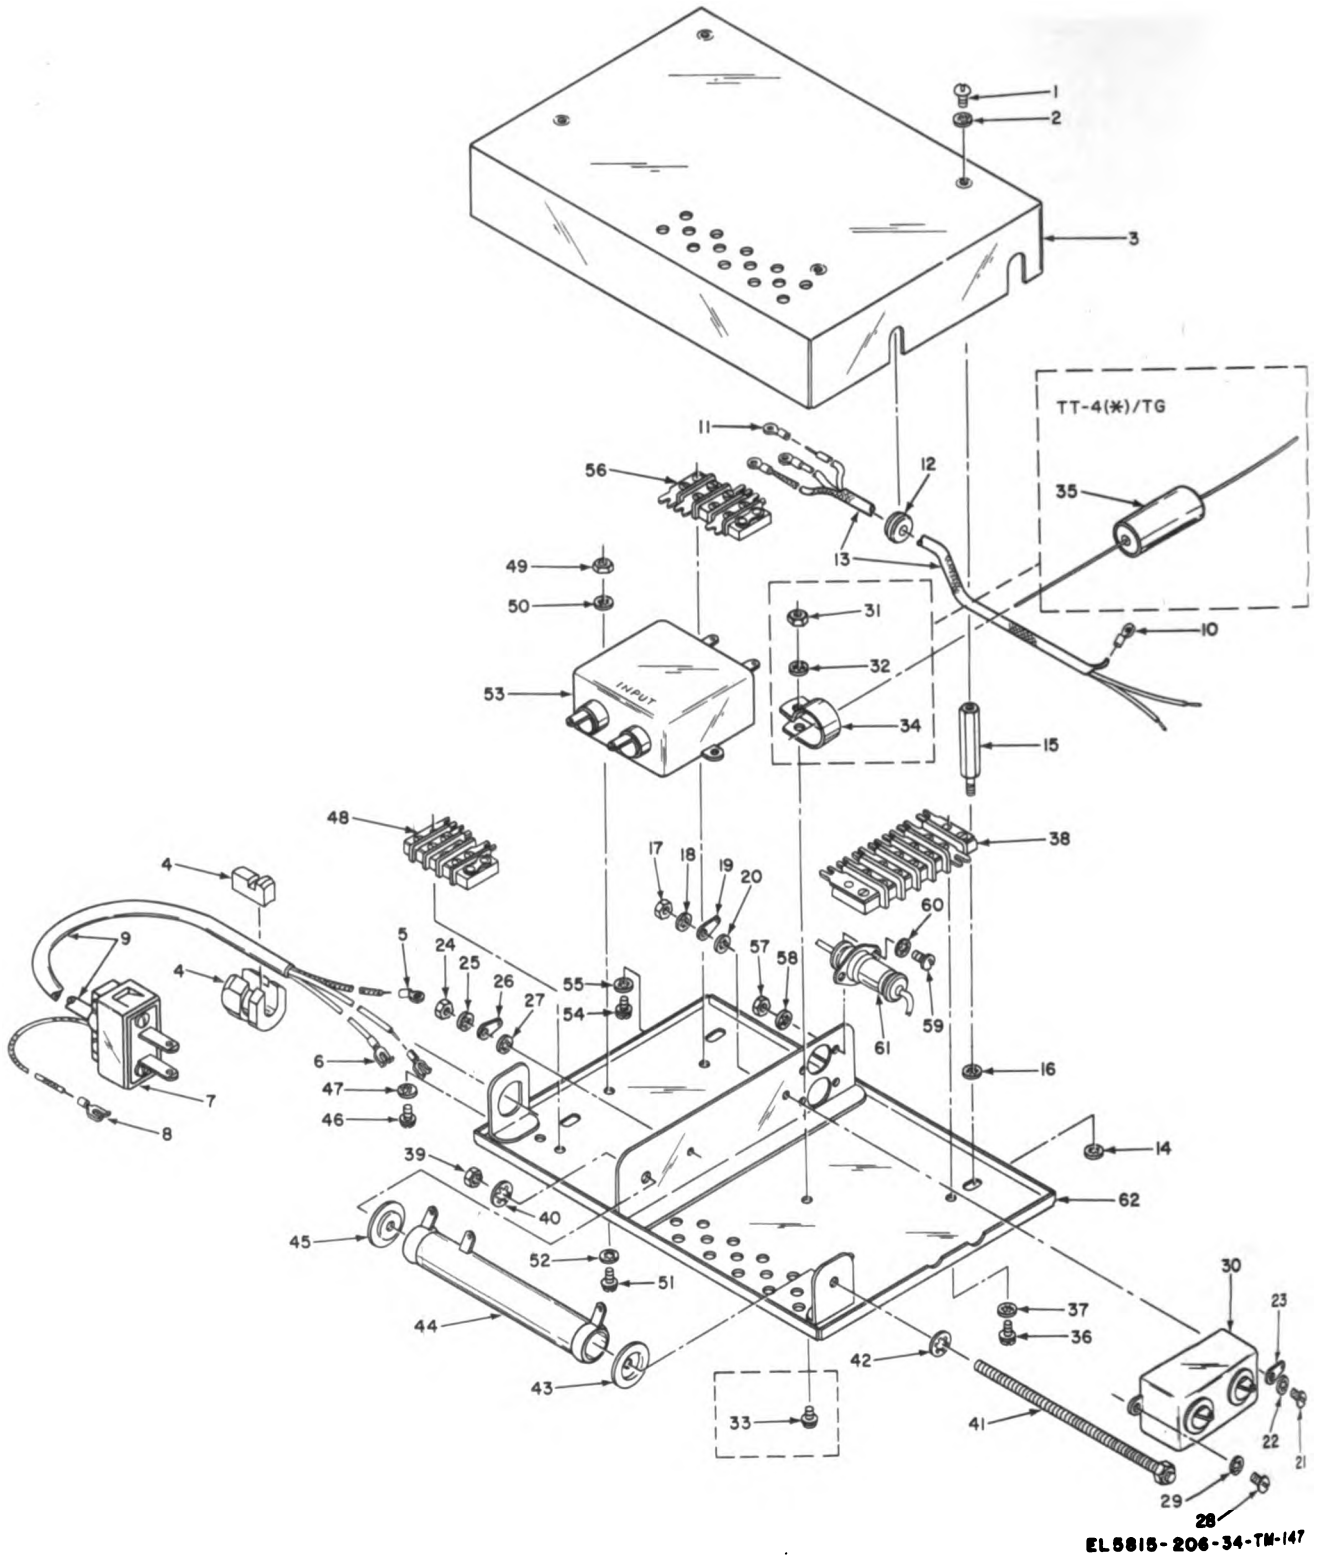

Figure 3-75. Motor filter box assembly (TT-4(\*)/TG and TT-699(\*)/TG, exploded view.
**3-103. Removal and Replacement of Motor Filter Box Assembly (TT-4(\*)/ TG and TT-698(\*)/ TG) (fig. 3-75)**
(1) Remove the teletypewriter from the mounting base (para 3-25a).
(2) Remove the four machine screws (1, fig. 3-75) and lockwashers that hold the filter box cover (3) to the mounting studs (15); remove the filter box cover.
(3) Disconnect the electrical leads of the motor power cable (9); from the terminal board TB2 (48); tag the leads to facilitate reassembly. Remove the strain relief (4) that holds the motor power cable to the filter box (62); remove the motor power cable.
(4) Disconnect the electrical leads of the motor-stop cable (13) and the motor cable from terminal board TB3 (38); tag the leads to facilitate reassembly.
(5) Remove the four mounting studs and lockwashers that hold the filter box (62) to the frame; remove the assembled filter box and electrical components, and remove the four lockwashers that are installed between the filter box and frame.
**KEY to fig. 3-75:**
(1) Replace the motor filter box assembly as indicated in figure 3-75; the replacement sequence is the reverse of the removal sequence.
(2) Reconnect all electrical leads that have been disconnected.
(3) Replace the teletypewriter on the mounting base (para 3-25b).